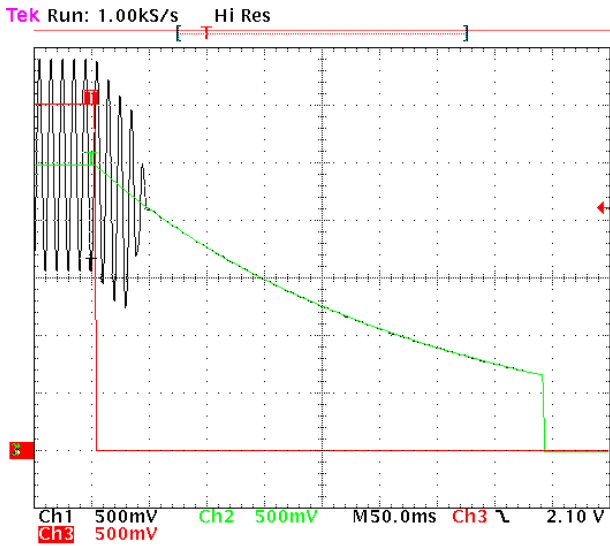

Figure 40. Turning-Off Time/ $V_p = 5.0$ V and $F = 100$ Hz
– 385 ms later, the DC signal will reach 0.7 V due to exponential discharge of the bypass voltage. It is then tied to Ground as shown in Figure 40.